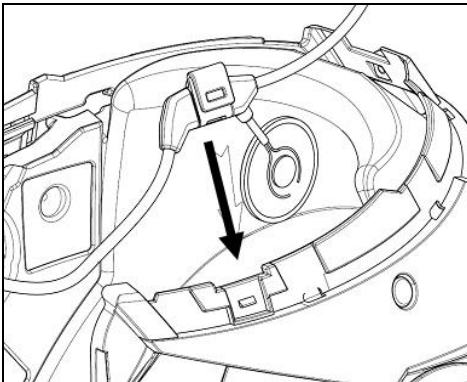

Fig. 5
- Fix the cable inside the helmet and make sure the right fixing clip snaps into its housing (Fig. 5)